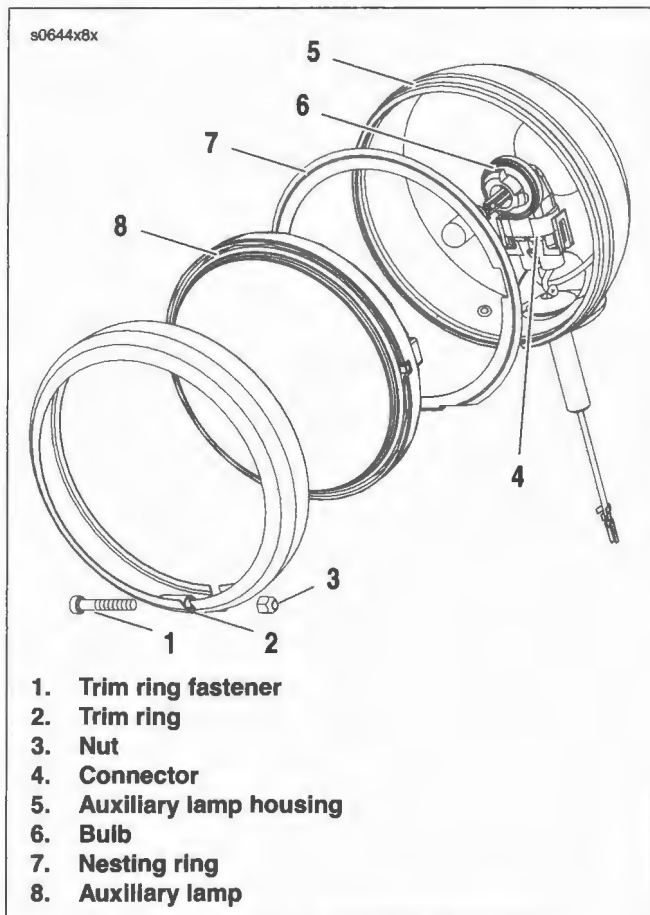

Figure 8-50. Auxiliary Lamp Bulb: Typical
1. See Figure 8-50. Loosen trim ring fastener (1) as required to pull trim ring (2) from lip of auxiliary lamp housing (5).
2. Disconnect auxiliary lamp connector (4) from bulb (6).
3. Remove nesting ring (7) at back of auxiliary lamp (8).
2. See Figure 8-50. Place nesting ring (7) at back of auxiliary lamp (8) with the concave side up.
3. Connect auxiliary lamp connector (4) to bulb (6).
4. Place nesting ring over edge of lamp housing (5). Rotate nesting ring until index tab engages slot at bottom of lamp housing.
6. Install trim ring (2) over lip of lamp housing. Rotate trim ring so that fastener (1) is centered at bottom, and then tighten fastener until snug.